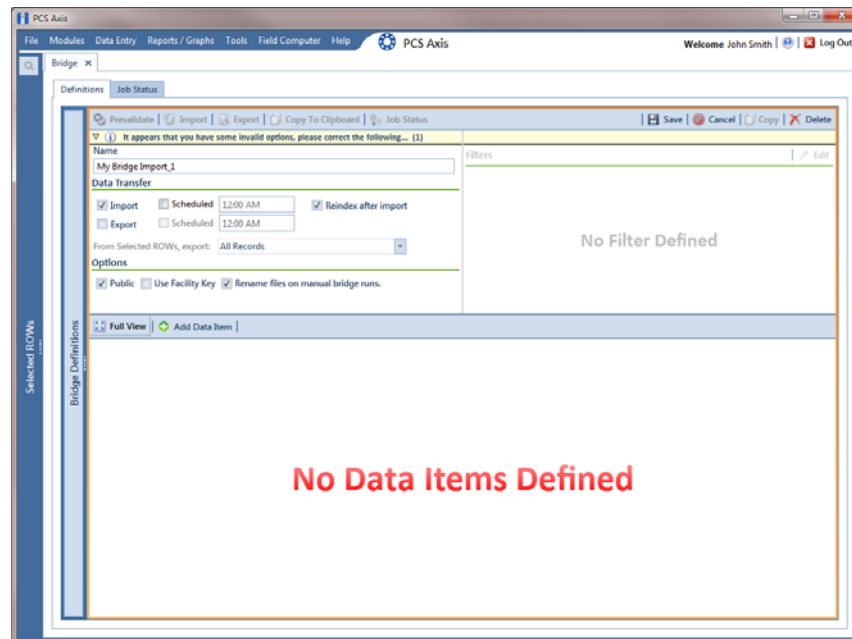

Figure 10-6. Bridge Import Definition
- 4 Type a unique name for the definition in the **Name** field (Figure 10-6, page 461).
- 5 To set properties in the *Data Transfer* group box, follow these steps (Figure 10-6, page 461):
- 6 To set properties in the *Options* group box, follow these steps (Figure 10-6):